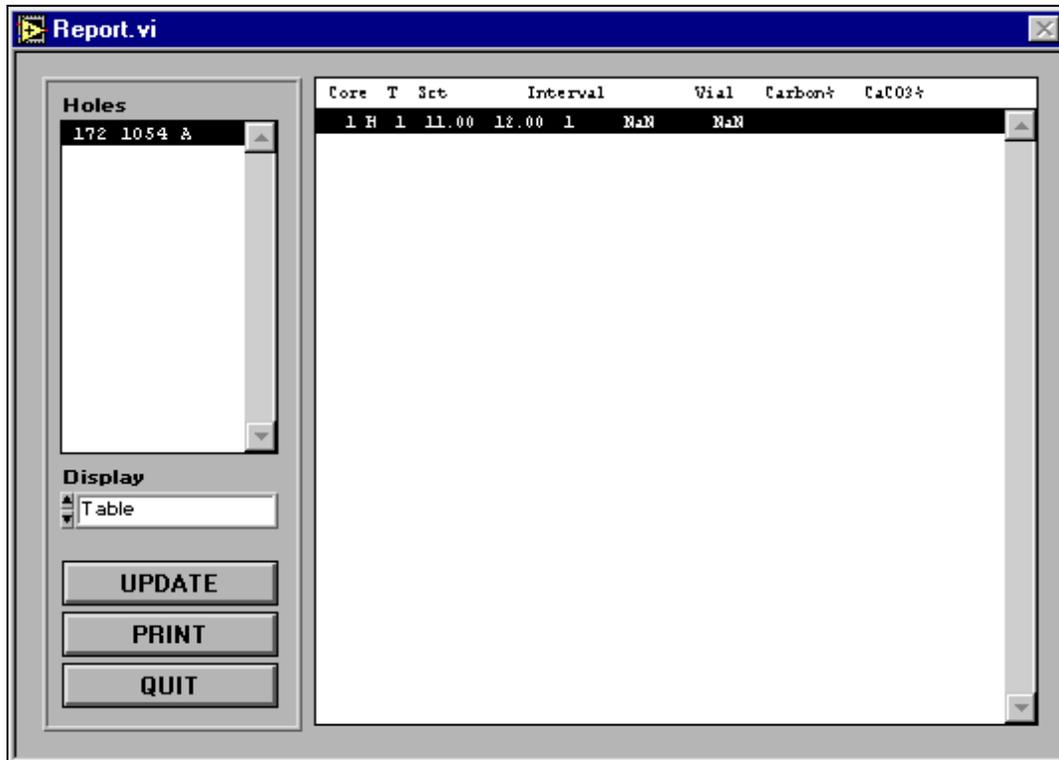

Figure 21. The “Report” window.
1. From the *Coulometrics* menu, click on the **Reports** button to open the “Report” window (See Figure 21).